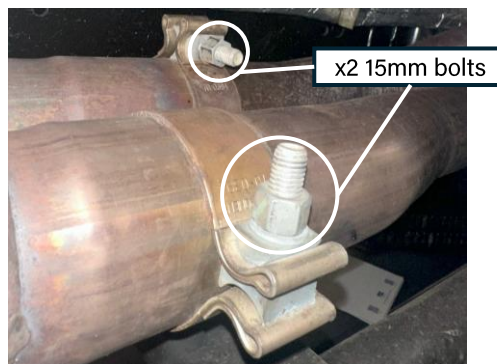

Figure 4g: Rear section resonator clamps
- Unbolt the rear section pipe clamp bolts at the resonator (Figure 4g)